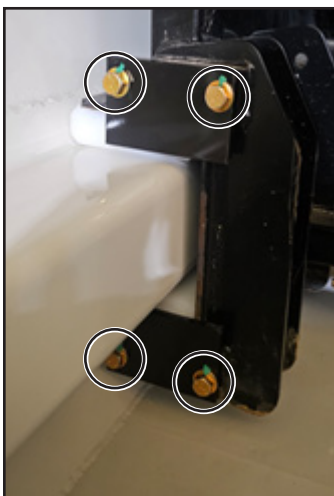

Figure 2
7. Remove and discard the hardware (8 hex bolt fasteners) holding the upper and lower ejector shoe plates on both sides of the ejector. Figure 2 shows one ejector shoe with the upper hardware and lower hardware called out.